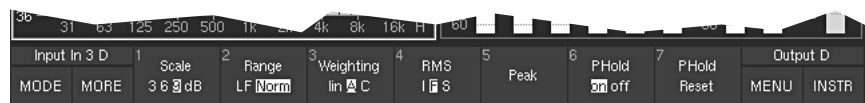

Fig. 3-12: Second Toolbar function level of the RTA 1/3 and RTA 1/6 instruments (displayed by selecting MORE)
(Button/key 1 – second level, see Fig. 3-12)
(Button/key 2 – second level, see Fig. 3-12)
(Button/key 3 – second level, see Fig. 3-12)
(Button/key 4 – second level, see Fig. 3-12)
(Button/key 5 – second level, see Fig. 3-12)
(Button/key 6 – second level, see Fig. 3-12)
(Button/key 7 – second level, see Fig. 3-12)